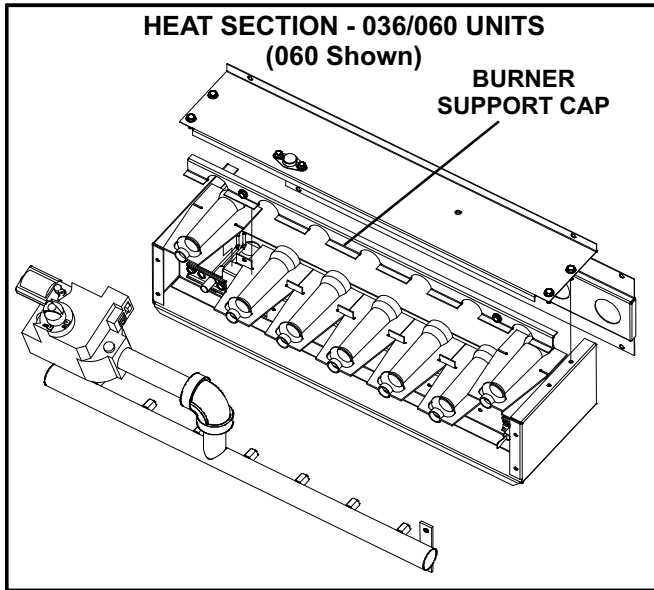
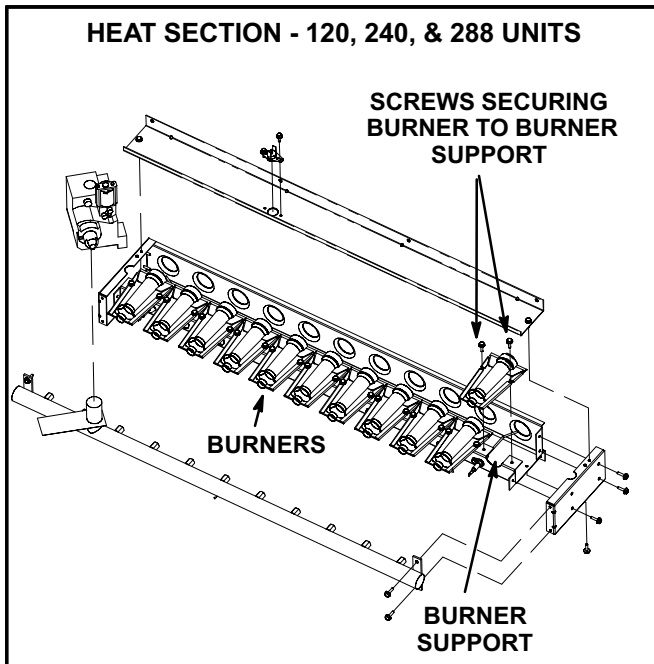

FIGURE 6
FIGURE 7
- 3- On 036 and 060 units, remove and retain four screws securing burner support cap and lift burners from orifices. See figure 6. On 120, 240, and 288 units, remove and retain two screws securing burners to burner support. See figure 7.